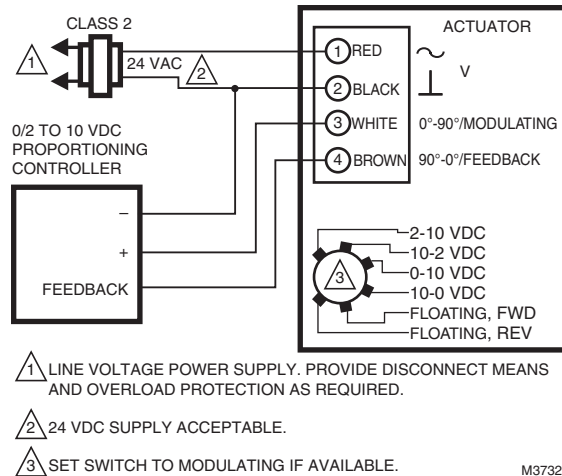

Fig. 13. Wiring for modulating (0/2-10 VDC) proportioning control, MS75 (shown) and MS71.
- a. VDC Input Signal: apply 5-6 VDC signal to control wire (WHITE). See Fig. 13.
- b. mA Input Signal: apply 10-12 mA signal to control wire (WHITE). See Fig. 13.
- c. Floating: apply 24 VAC to appropriate 0°-90° (3) or 90°-0° (4) wire until device reaches 50%.